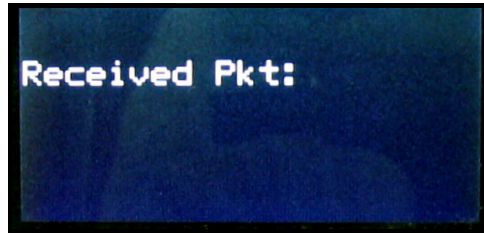

Figure 40: Sentinel LCT Screen
3. From the **Sentinel LCT FACTORY** menu, scroll to the Upgrade option and press **[ENT]** twice. The **Sentinel LCT** screen should appear as in Figure 40 after approximately one minute, or
Power on the **Sentinel LCT**, and enter ESC-R from the PC keyboard. The **Sentinel LCT** screen should appear as in Figure 40.